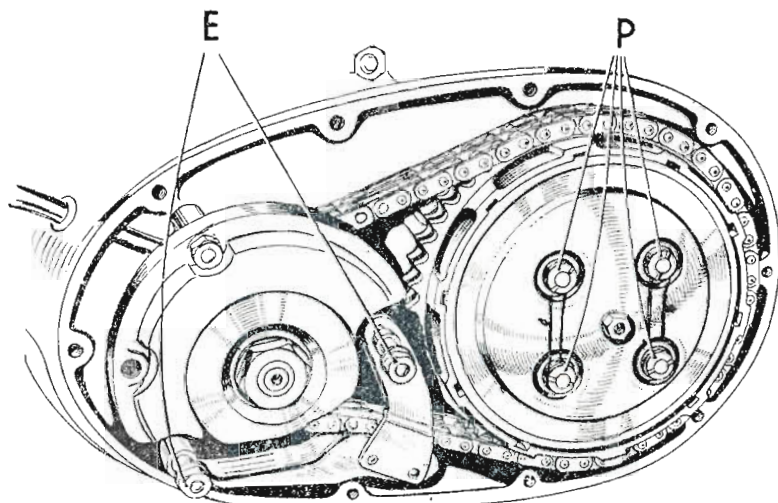

Fig. 14. The primary transmission and clutch.
For adjustment of the chain, the cover must first be removed. When the two lower generator retaining nuts (E) Fig. 14 are slackened, the position of the slipper can be altered to give the correct tension.
Remove the four spring retaining nuts (P) Fig. 14, and withdraw the springs and their cups. The pressure plate and the remaining clutch plates can then be withdrawn, and if these are the only items requiring attention, the clutch need not be dismantled further. The steel plates should be smooth, and if badly scored, they should be replaced. The segments on the driving plates are bonded in position, and will not normally require replacing for a considerable mileage.
must be reset carefully. The four retaining nuts (P) Fig. 14, should be screwed in until the underside of the head of each nut is approximately $\frac{1}{16}$ in. from the face of a spring cup. The figure is an arbitrary one and it is a simple matter to vary it according to circumstances. If the springs are compressed excessively, the handlebar lever will be stiff to operate and tiring to the hand; alternatively, if the spring pressure is insufficient, the clutch will tend to slip.